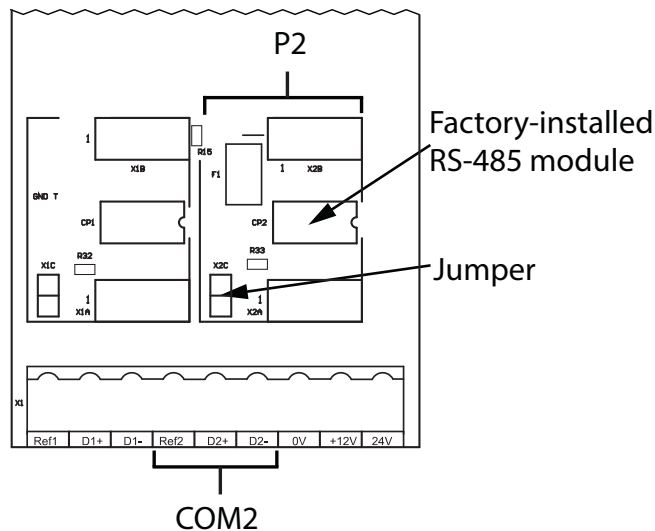

Figure 8 COM2
The second field bus terminal (COM2) is shown in Figure 8. It is normally not available, because it is used internally for the GSM/SMS module.
3. To install a communication converter, follow the instructions under "To install a communication converter" on page 13. The locations of the factory-installed module and jumper are shown in Figure 8.